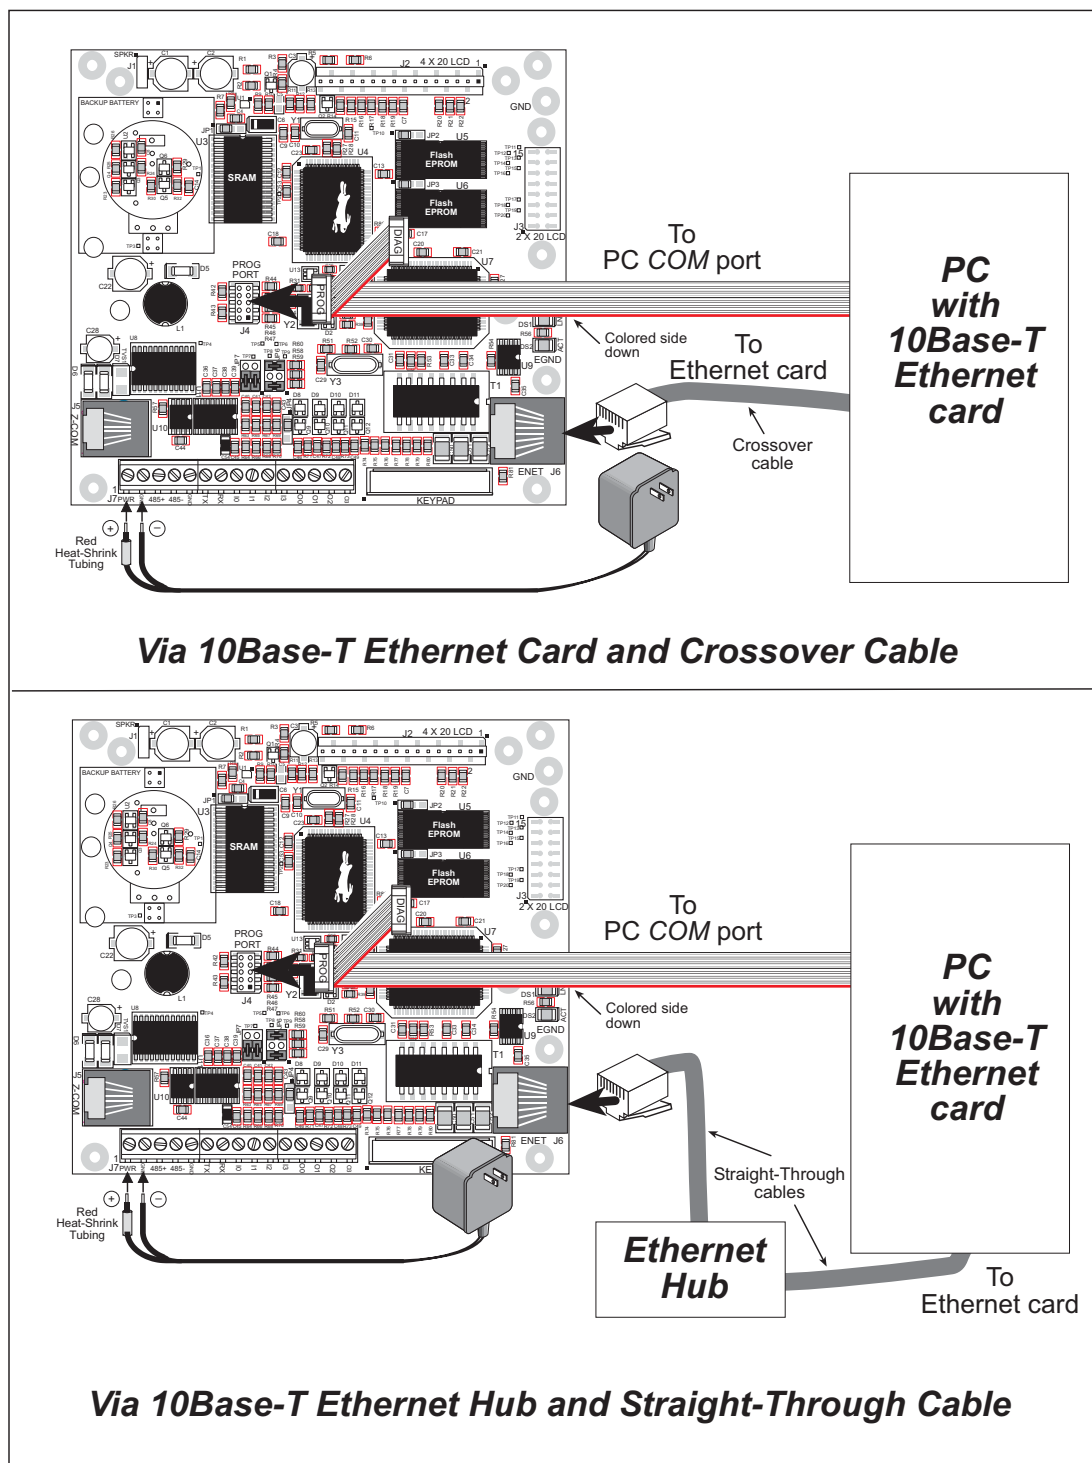

Figure 15. Ethernet Connections
- If you have an Ethernet connection, use a straight-through Ethernet cable to establish an Ethernet connection to the Intellicom from an Ethernet hub. These connections are shown in Figure 15.